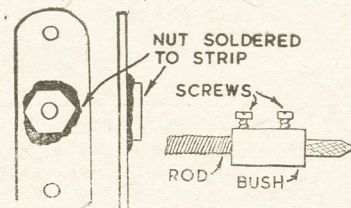

Fig. 3—Screw arrangement and holders
strip, as illustrated in Fig. 3. These metal strips are screwed on the inside of pieces (B) as shown. From each strip one of the supply leads is taken, loops being formed at the ends of the wires so that they can be held under a washer placed on the lower securing screws.
Bushes with set screws hold the carbons in position, as shown in Fig. 3. These bushes, with $\frac{1}{4}$ in. diameter centre hole, can easily be bought and torch-lamp carbons will fit them well.